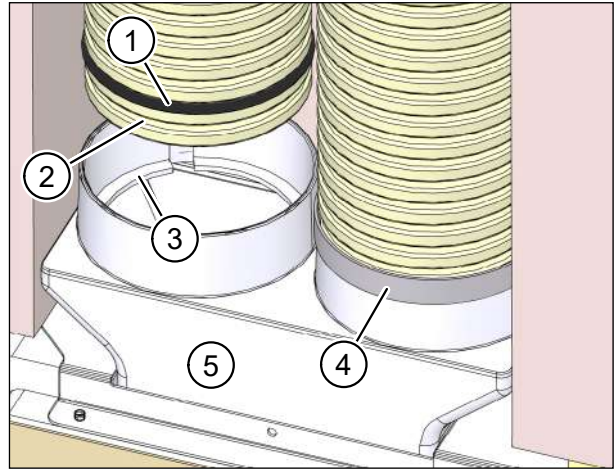

Fig. 58: Fixing a flexible pipe connection with sealing tape
- ▶ Insert the sealing rings (item 1 in Fig. 58) into the second groove on the flexible pipe. These are available as accessories M-WRG-FR-DR75 (part no. 5056-41/75).
- ▶ Insert the flexible pipes into the openings in the flexible pipe connection. Make sure that the first groove on the flexible pipe (item 2 in Fig. 58) engages with the locking ring (item 3 in Fig. 58) on the flexible pipe connection.
- ▶ Recommendation: Seal the joint with a layer of sealing tape 30 mm wide (item 4 in Fig. 58).
- ▶ Insert the flexible pipe connection (item 5 in Fig. 58) into the opening in the wall box.